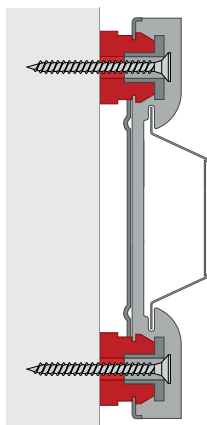

Figure 2
- ❑ Fix the Isoblocks with suitable screws, through the circular metal inserts on each end (figure 2).